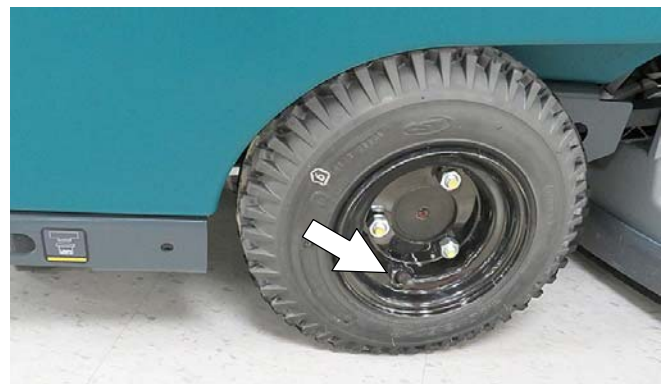

FIG. 123
4. Check tire pressure if equipped with the pneumatic (air-filled) tires (Figure 123). The proper tire pressure is 60 to 65 psi (415 to 450 kPa).